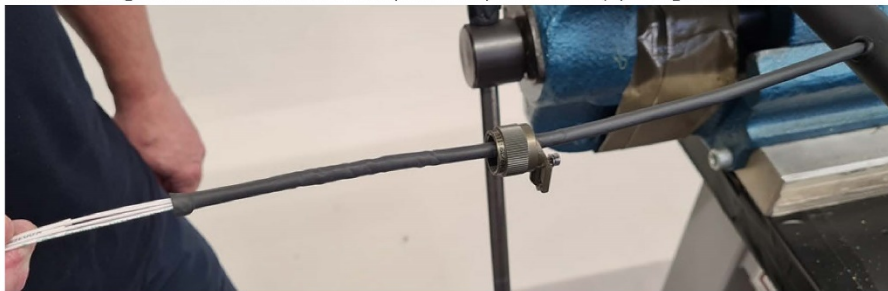

Figure 19 – Positioning of the quick clamp connector
24. Refer to Figure 19. Insert and slide the quick clamp connector (3) along the cable.